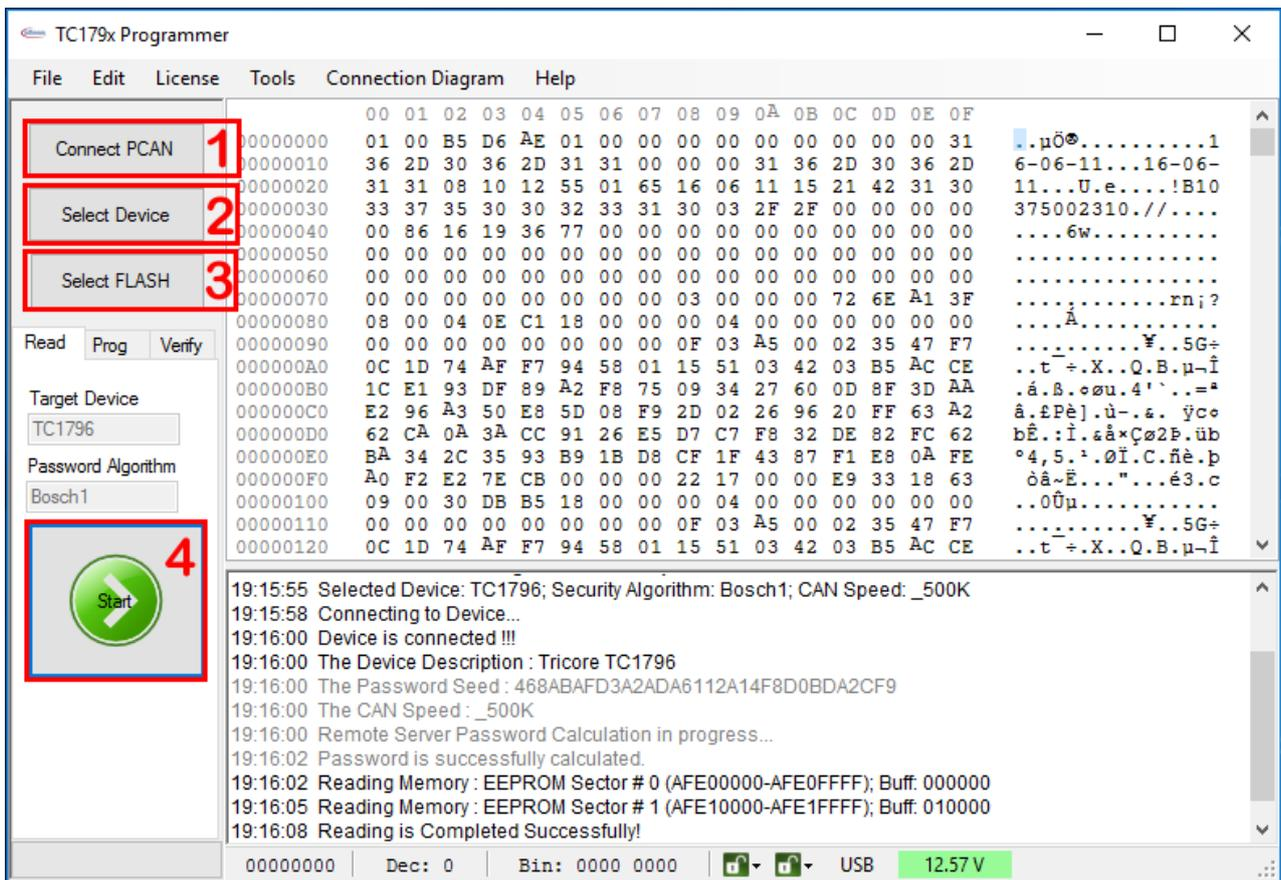

Figure 28 TC179x-Programmer reading sequence.
- Press "Connect PCAN" button on TC179x-Programmer software (Figure 28)